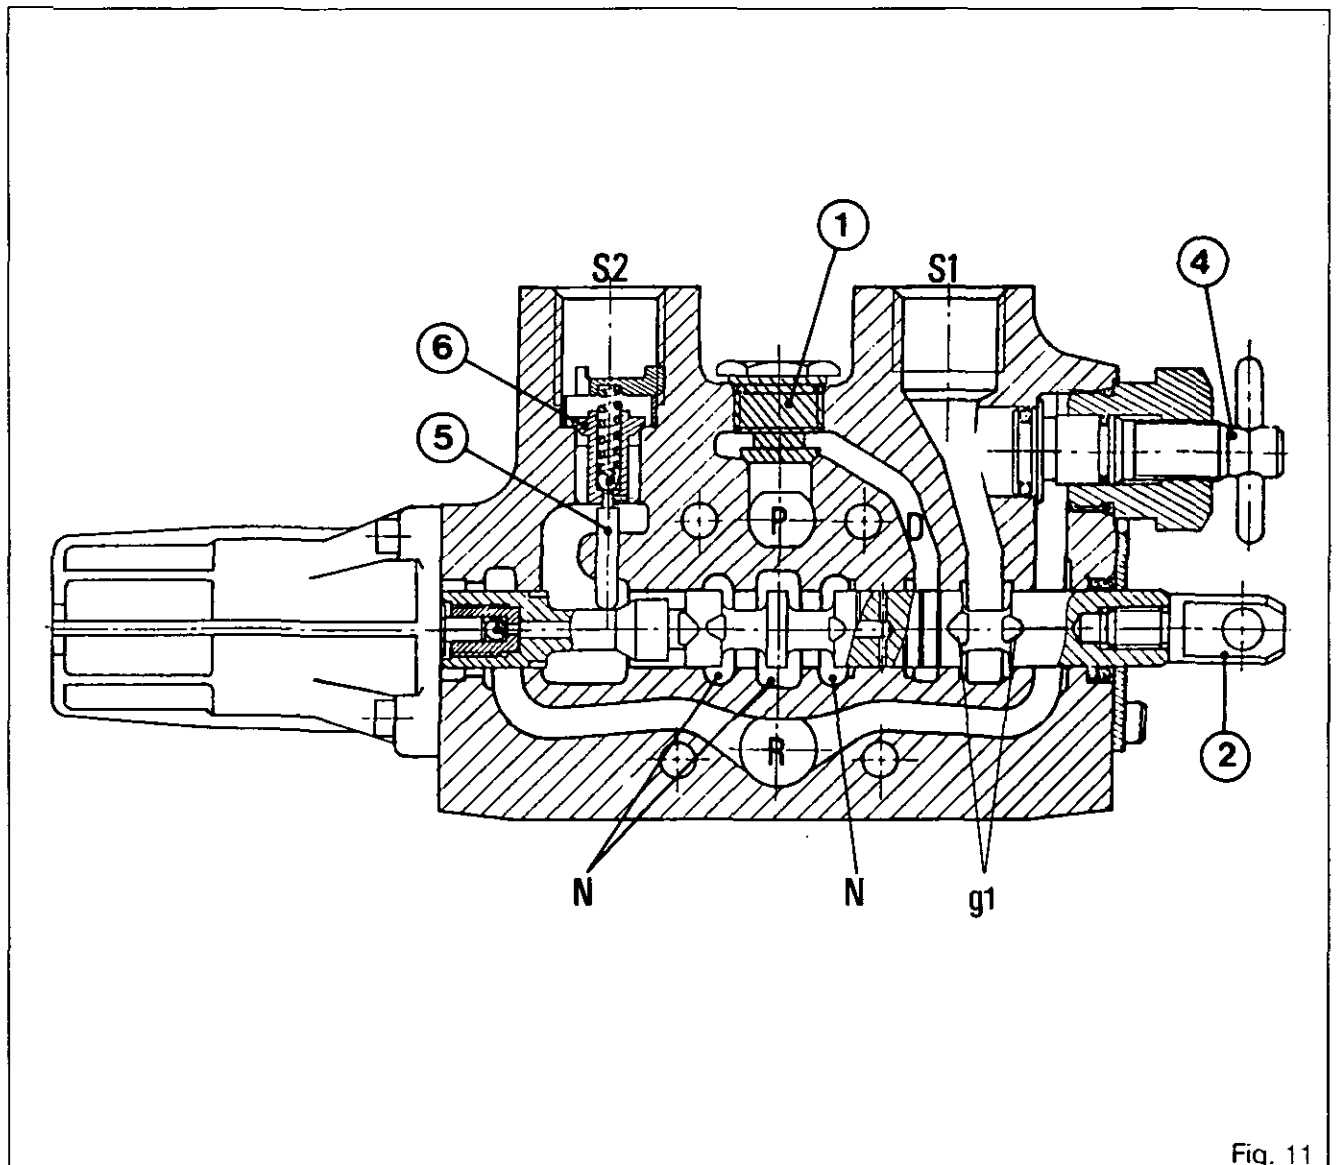

Fig. 11
**Operation of check valve (Fig. 11)**